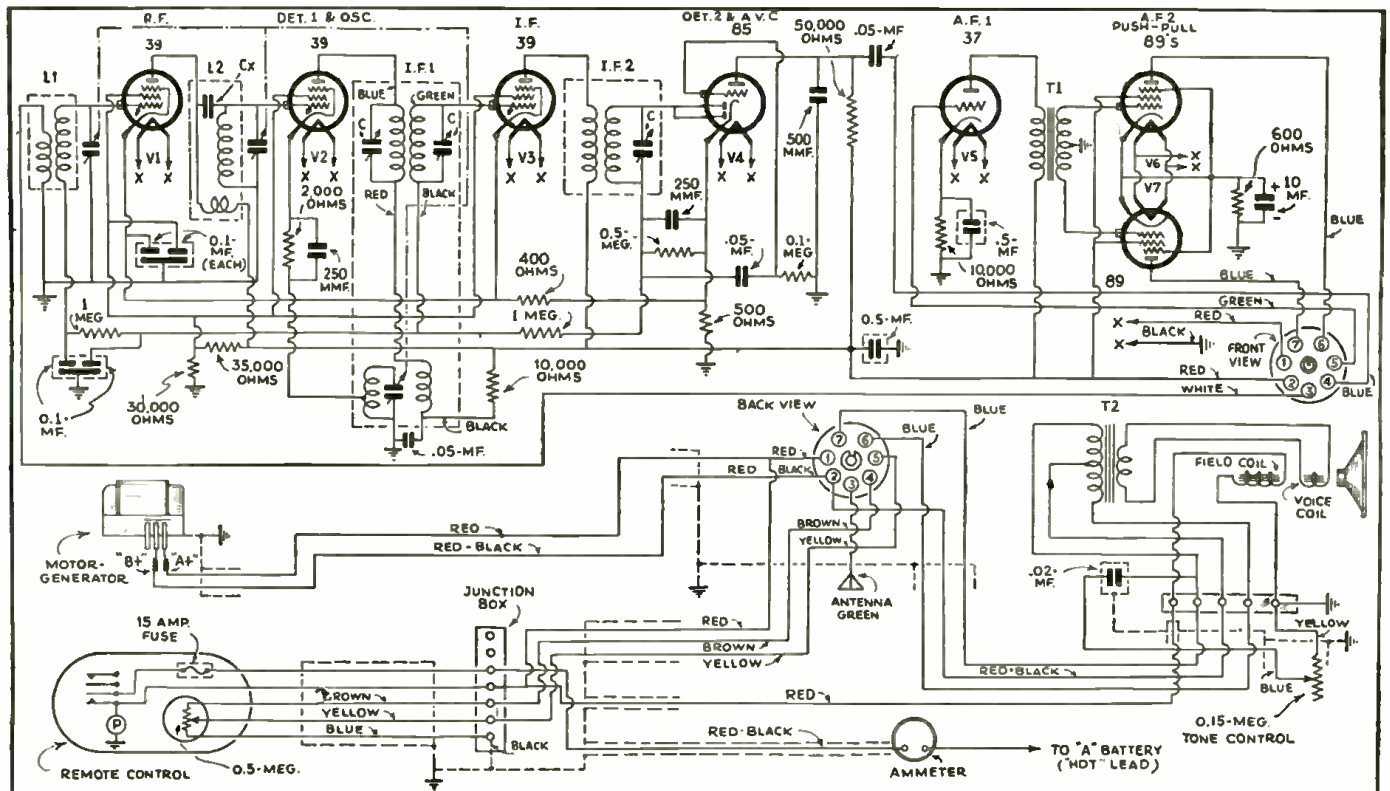

Fig. 15
**T**O CONTINUE the design of the auto radio receiver which we began in the last issue, Fig. 15 shows a general wiring diagram of the complete set and all the accessories. The radio set consists of 7 tubes used as follows: one type 39 tube as first R.F. amplifier, one type 39 tube as a combination first-detector and oscillator, one type 39 tube in the I.F. stage, one